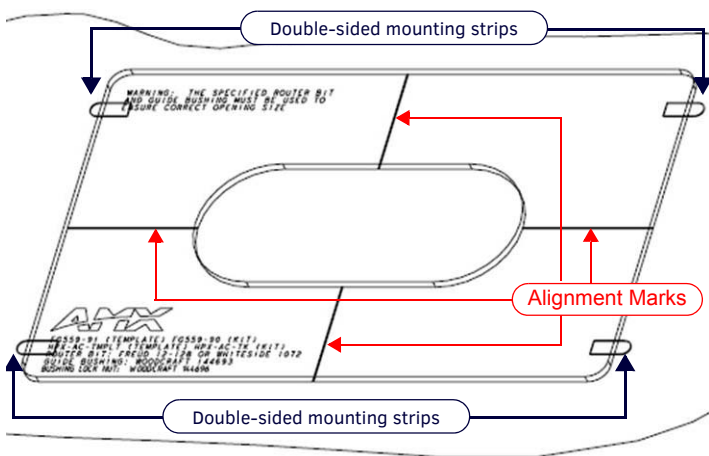

FIG. 4 HPX-AC-T ROUTER TEMPLATE
2. Apply mounting strips or other appropriate double sided tape to the bottom surface of the router template, making sure that the rounded edges of the mounting strips protrude slightly beyond the edges of the template (see FIG. 4).
3. Use the alignment marks scribed on the template to align the template properly on the mounting surface (FIG. 4).